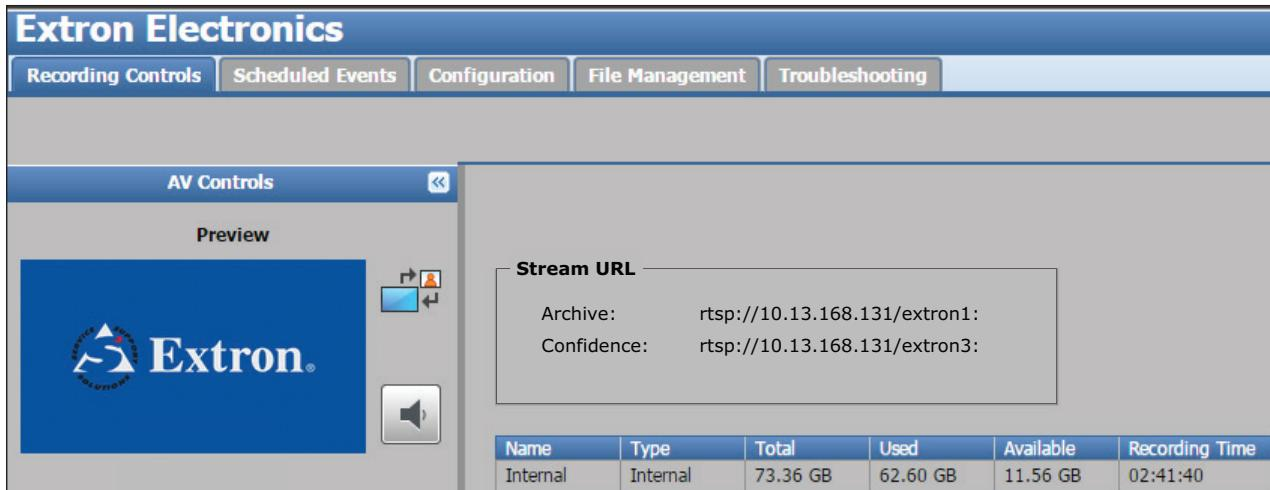

Figure 84. Recording Controls Page
2. The Recording Controls page opens (see figure 84).
6. The Open URL dialog opens. In the **Enter an Internet URL to open:** field, enter the stream URL that was noted in step 3 of this procedure (see figure 84 on the previous page).